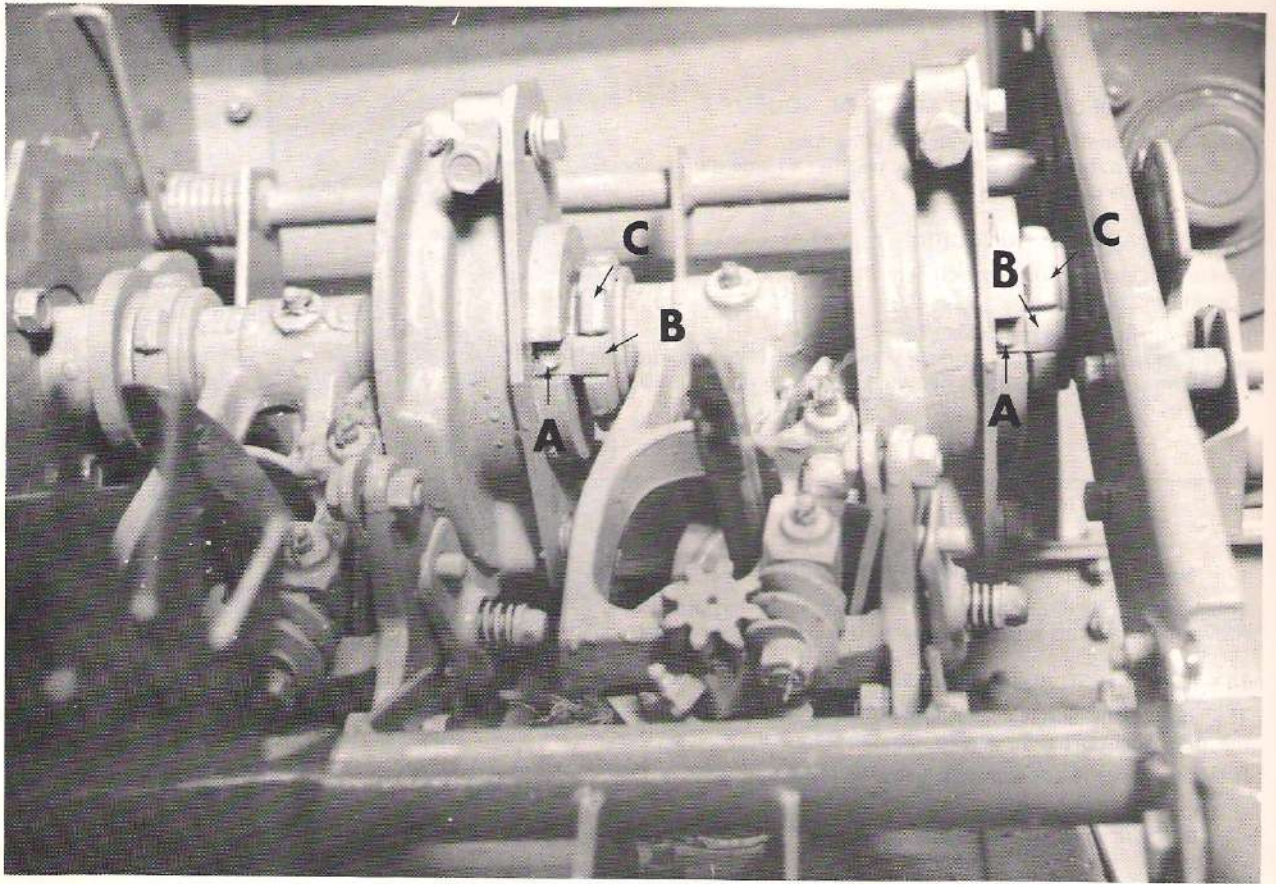

Fig. 47
- Dégager la vis (Rep. A Fig. 47) et le frein (Rep. B).
- Remove the screw (A fig. 47) and the retainer.
- Lock up by hand the castle-nut (C) up to one of the flat faces of the pinion come in touch with the flat side of the knotter plate.
- Schraube (Kennzeichen A – Abb. 47) und Bremse (Kennzeichen B) lösen.
- Sacar el tornillo (Ref. A – Fig. 47) y el retén (Fig. B)